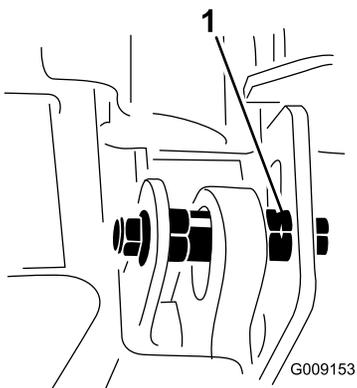

Figure 8
**Note:** There is a notch on the eccentric hex, which is 180° from the lobe on the eccentric cam (Figure 8). Use the notches to reference the location of the lobes when adjusting the eccentrics.